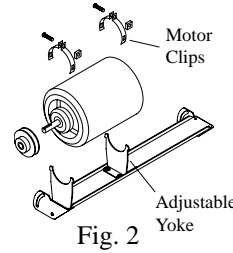

Fig. 2
- **Mount motor.** Install blower motor in the motor mount yokes, adjusting the yoke if necessary. Fasten with the provided mounting clips (see Fig. 2). **NOTE:** Adjustable yoke will have to be reversed for 1 H.P. motors.